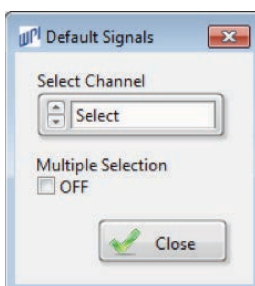

Fig. 70—The *Default Signals* window lets you return to your original data display.
1. Click on the **Filter** menu (of the *Analysis* window) and select **Default**. The *Default Signals* window appears (Fig. 70).